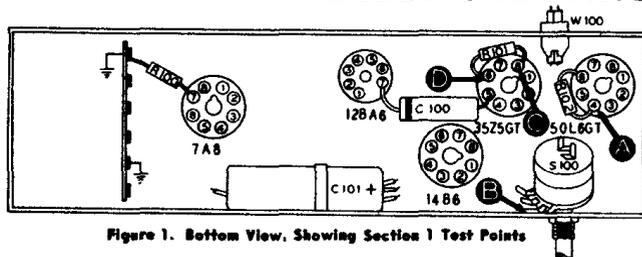

Figure 1. Bottom View, Showing Section 1 Test Points
2. Measure the resistance between B+ (test point C) and B— (test point B). See figure 1. When the ohmmeter test leads are connected in the proper polarity, the highest resistance reading will be obtained. If the reading is lower than 1500 ohms, check condensers C101A, C101E, C101C, and C203 for leakage or shorts. The resistance value given is much lower than normal, and is not intended as a quality check of these condensers; the value given is the lowest at which the rectifier will operate safely while the voltage checks of Section 1 (power supply) are performed.